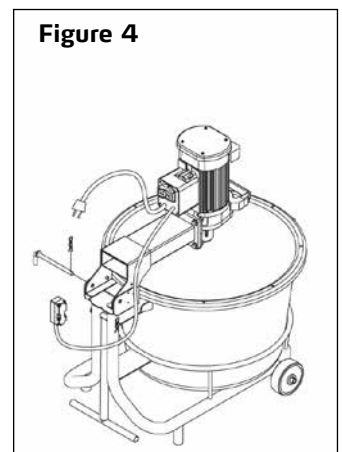

Figure 4
3. Insert the L-shaped stub shaft and secure with the cotter pin (figure 4). Attach the locking screw on the motor head to the fork. Mount the safety switch on the chassis (figure 5) and secure in place with the four screws provided.